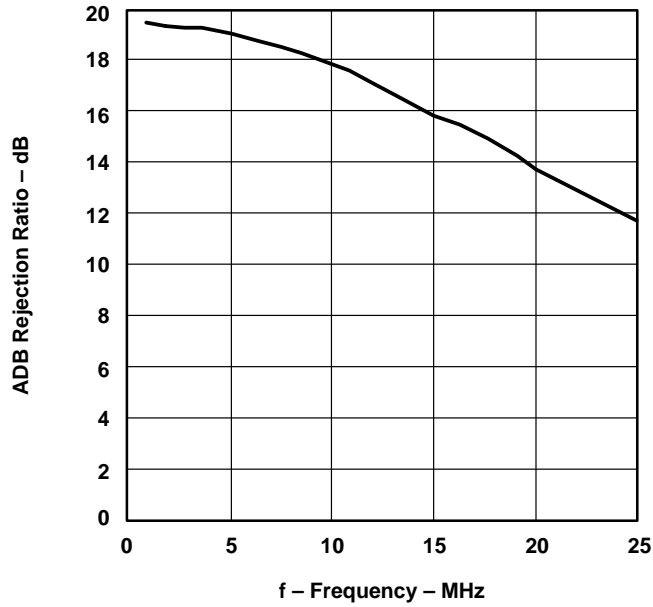

Figure 11. Measured ADB Rejection Ratio as a Function of Frequency
8. ADB rejection ratio is –20 times the logarithm of the ac amplitude at the output divided by the ac amplitude at ADB (see Figure 11 for measured ADB rejection ratio as a function of frequency).